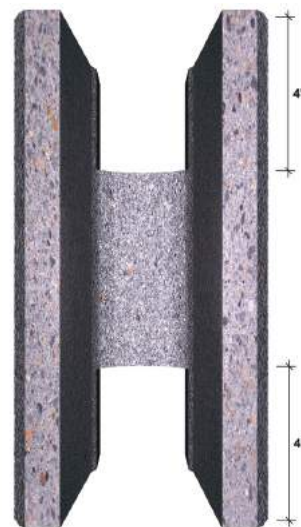

Fig 4.36
3. Modify the bond units of the upper bond course to allow the grout to flow through to the lower bond course (Fig. 4.36).